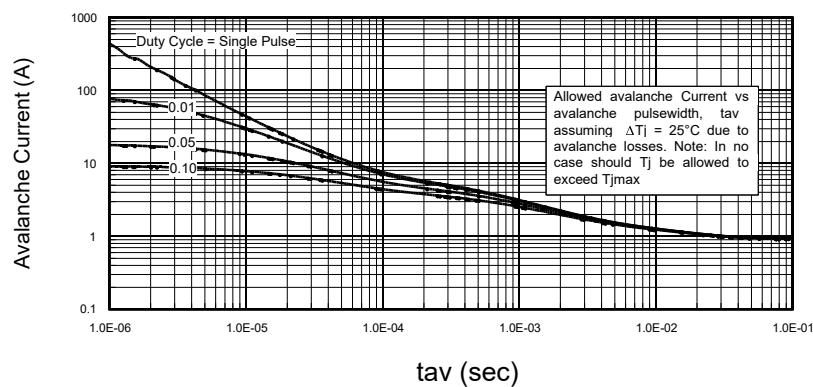

Figure 15: Typical Avalanche Current vs.Pulse width
7. ΔT = Allowable rise in junction temperature, not to exceed T_{jmax} (assumed as 25°C in Figure 15, 13).